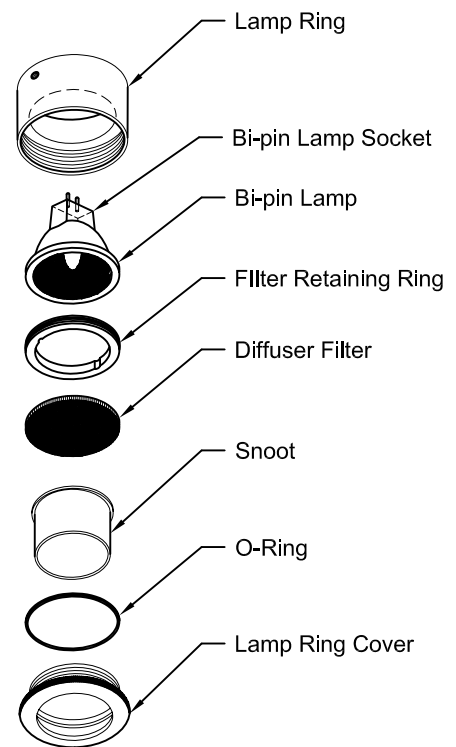

Figure 4
1. Remove Lamp Ring Cover, O-Ring, Snoot, Diffuser Filter and Filter Retaining Ring by rotating Lamp Ring Cover counter clockwise. See Fig. 4.